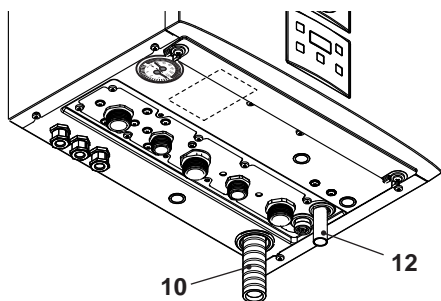

Fig. 6.4
- Connect the pipe 12 (Fig. 6.4) from the pressure relief valve to the safety discharge pipework.
- Fit the condensate drain 10 (Fig. 6.4) in to the drainage pipework.